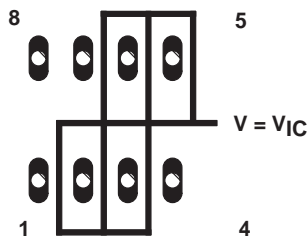

Figure 37. Isolation Metal Around Device Inputs (P package)
- Isolate the device from other potential leakage sources. Use a grounded shield around and between the device inputs (see Figure 37). Leakages that would otherwise flow to the inputs are shunted away.
It is good practice to include guard rings around inputs (similar to those of Figure 37 in the Parameter Measurement Information section). These guards should be driven from a low-impedance source at the same voltage level as the common-mode input (see Figure 41).